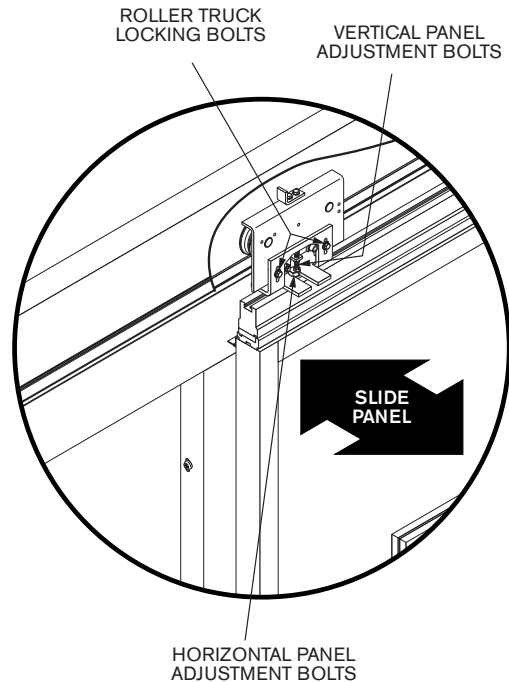

Figure19B: Adjusting Bolt Locations
1. Loosen the two horizontal panel adjusting bolts on top of each panel(s). These bolts will slide between the two forks on the panel trolley bracket in the header (Figures 19B & 20).